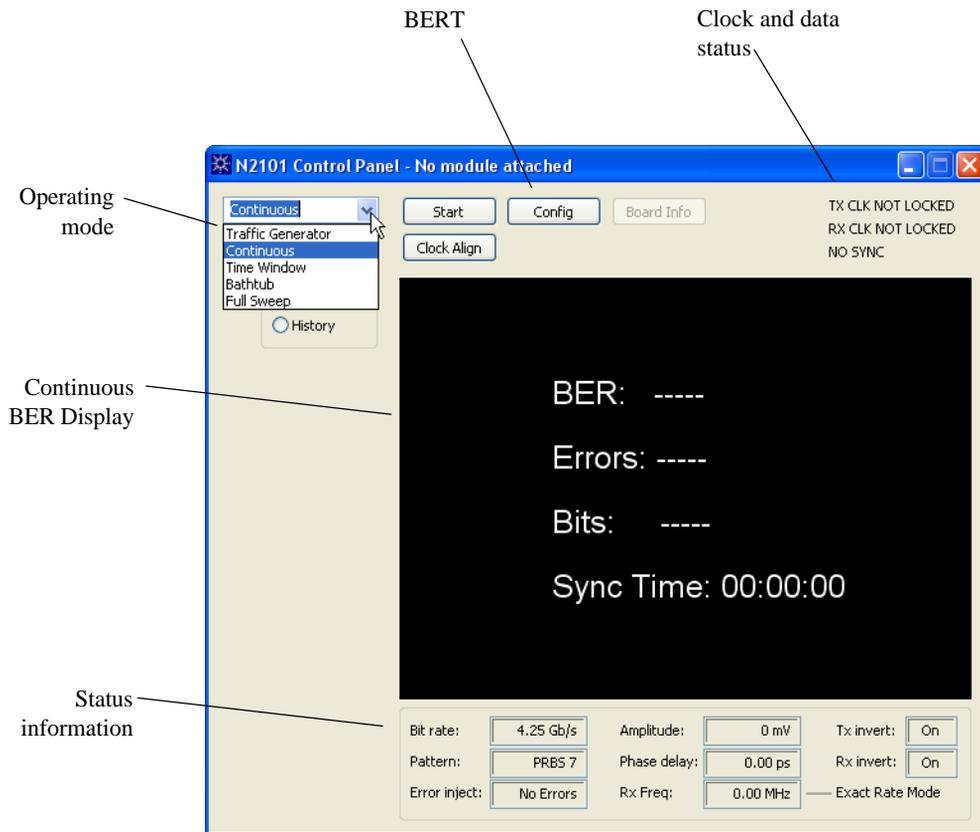

Figure 3-1. Control Panel
- Select **Current** to display the continuous BER results, as shown in Figure 3-1.